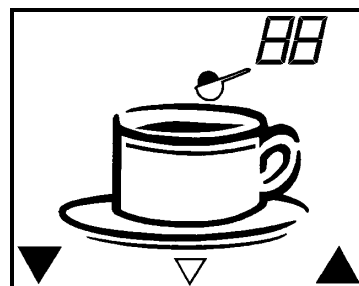

Fig. 9
1. Select program "setting the strength of beverage". Figure 9 appears in the display.
2. Press the right-hand side of the setting key  (13) for a larger quantity/stronger taste, (max. 25).
3. Press the left-hand side of the setting key  (13) for a smaller quantity/weaker taste, (minimum 1).